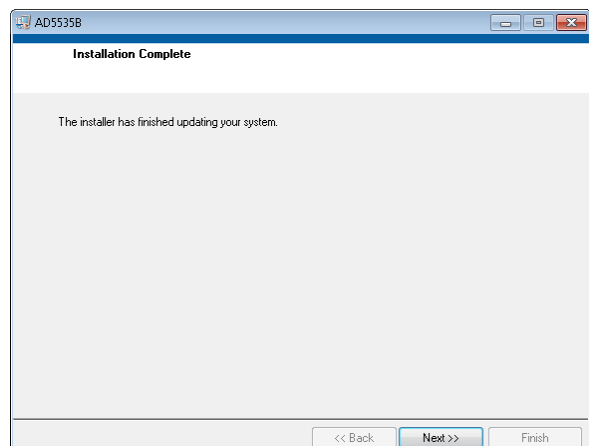

Figure 7. AD5535B Evaluation Board Software Installation: Indicating When the Installation Is Complete
7. The message in Figure 7 appears when the installation is complete. Click **Next**.